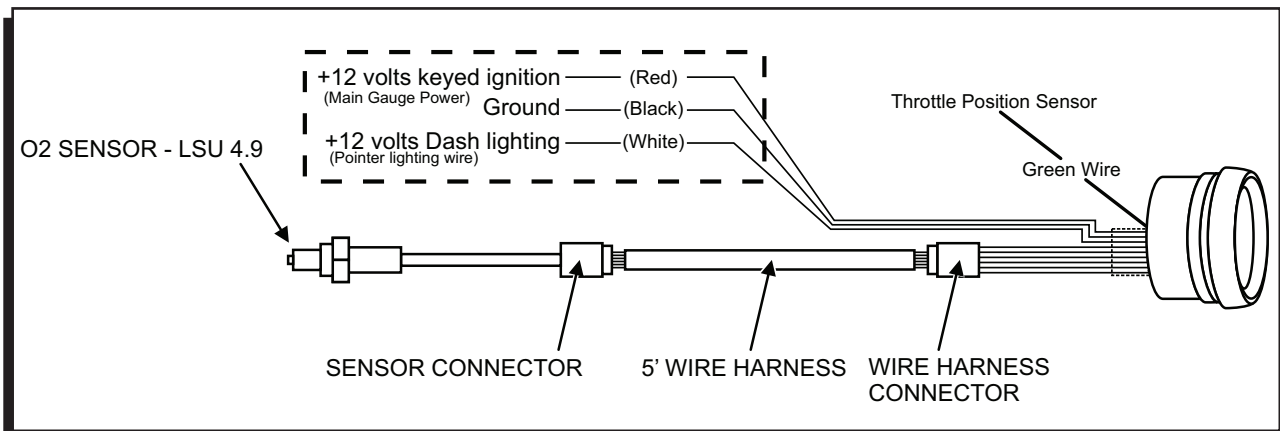

Figure 1
8. Connect the O2 harness to the included gauge harness. (Figures 1)